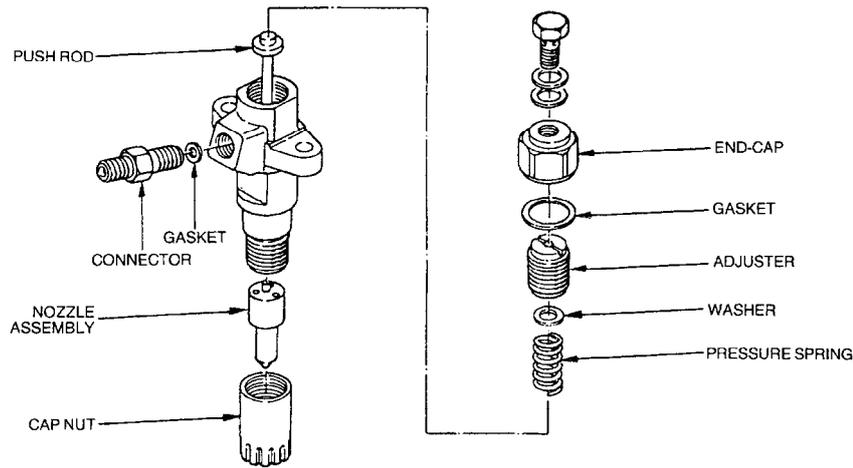

Figure 136 Fuel Injector Exploded View
49. **Disassembly.** Disassemble the fuel injectors as follows (Figure 136):
- 51. **Reassembly.** Reassemble the fuel injectors as follows (Figure 136):